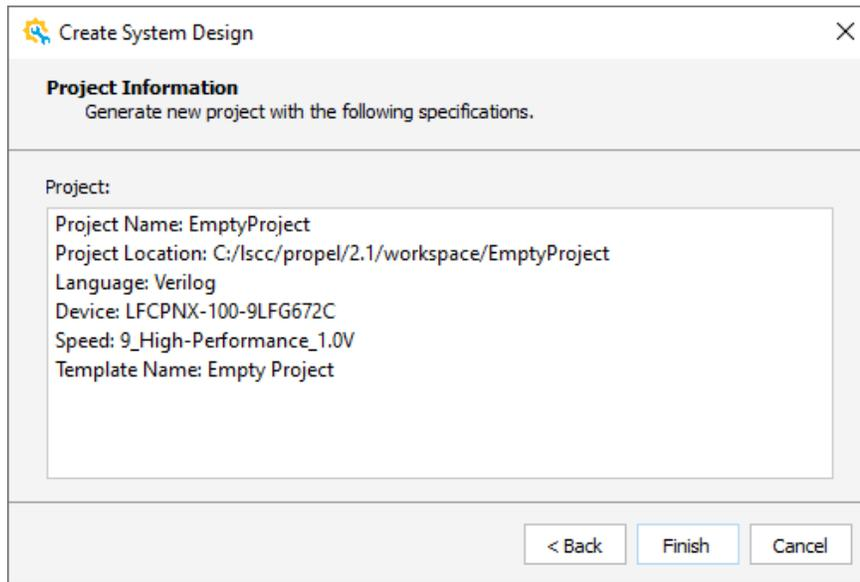

Figure 2.6. Create System Design – Project Information Wizard
- Click **Next**. The Project Information wizard opens (Figure 2.6).